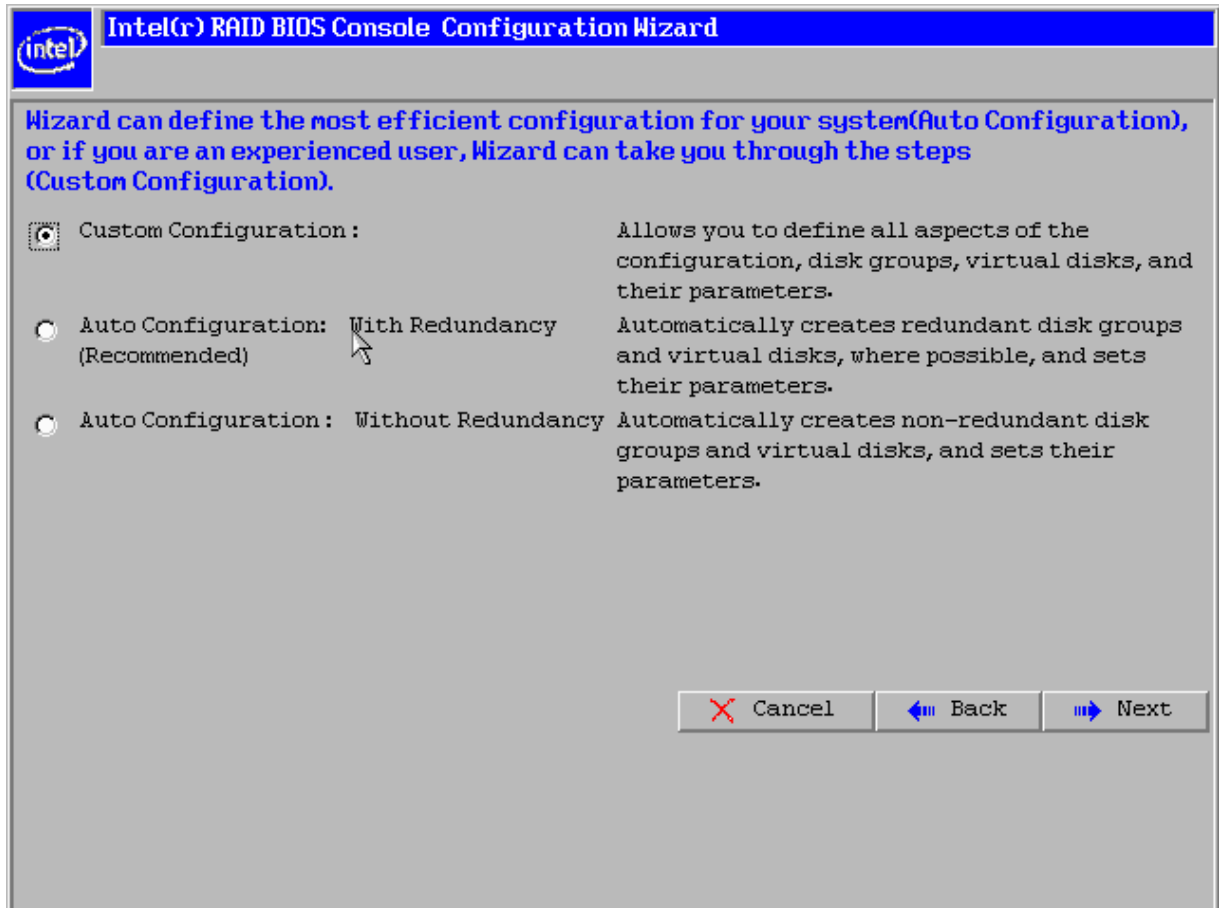

Figure 11. RAID BIOS Console Configuration Wizard
6. On the next screen that appears (see Figure 11), select **Custom Configuration** and click **Next** to continue.